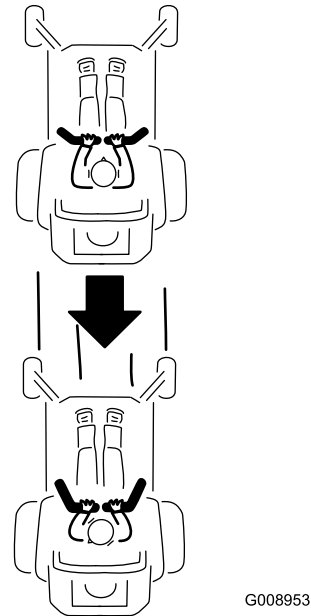

Figure 21
2. To go backward, slowly pull the motion-control levers rearward (Figure 21).
The Smart Speed™ Control-System lever, located below the operating position (Figure 21), gives the operator a choice to drive the machine at 3 ground speed ranges—trim, tow, and mow.